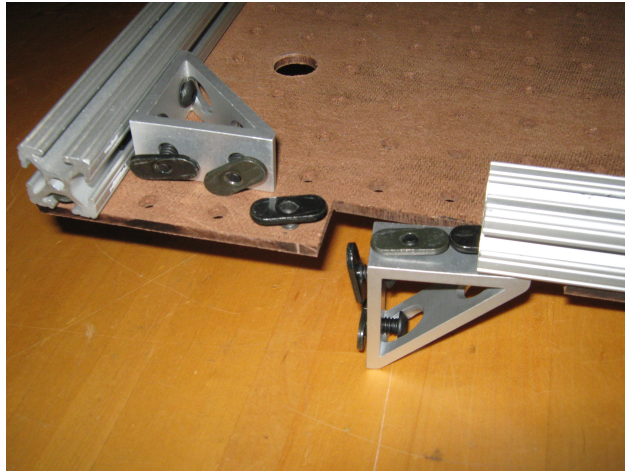

Figure 7: Slide the 13" 80/20 onto the sides of the pegboard, along with the angle brackets that will later attach to the rollbar.
5. Slide the two 13" beams of 80/20 onto the two sides of the pegboard. As you reach the notches on the sides, place an angle bracket there and slide the 80/20 onto it as well. Be sure to orient the angle bracket so that its hypotenuse is facing the back of the robot, towards you, as shown in Figure 7. As you reach the angle brackets attached to the 15" beam, slide the side beams onto it as well.